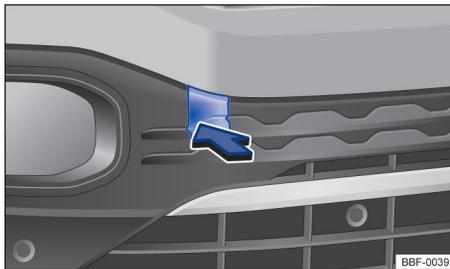

Fig. 165 On the right-hand side of the front bumper: release and remove the cover.
The threaded towing eye housing is located to the right of the front bumper, behind a cover → Fig. 165.
- Press the lower area of the cover → Fig. 165  to release the cover lock.